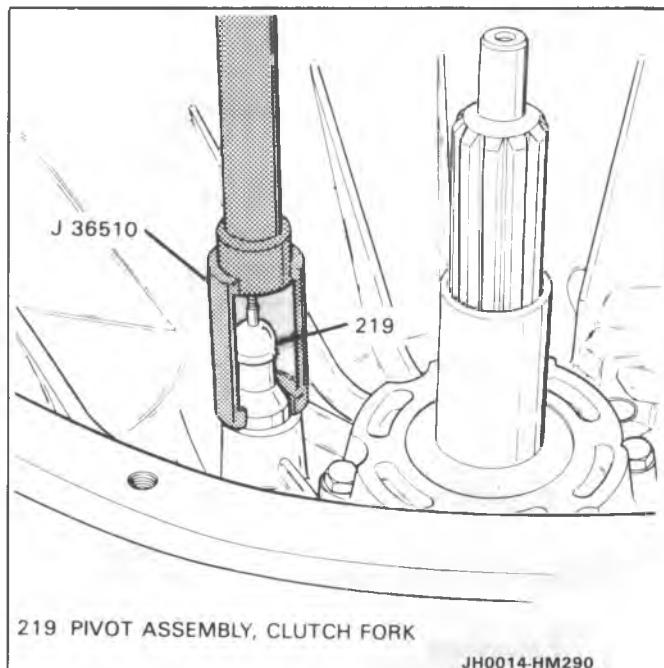
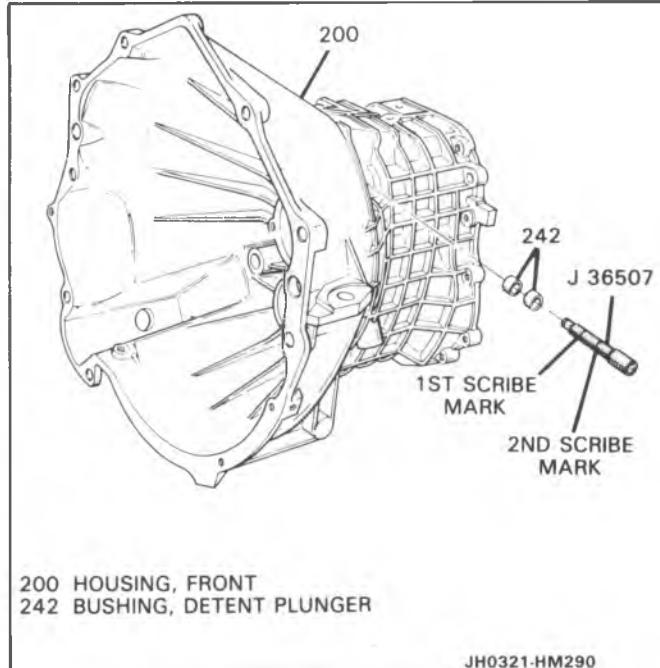

Figure 48 Clutch Fork Pivot Assembly Install
Figure 49 Detent Plunger Bushings Install
3. Clutch fork pivot assembly (219), using J 36510 and J 36190 (Figure 48).
- Grease after installation through lube fitting (220).
4. Two detent plunger bushings (242), using J 36507 (Figure 49).